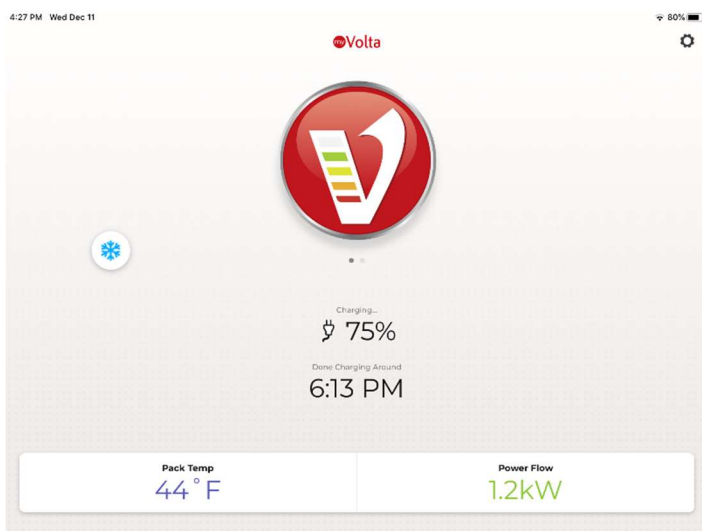
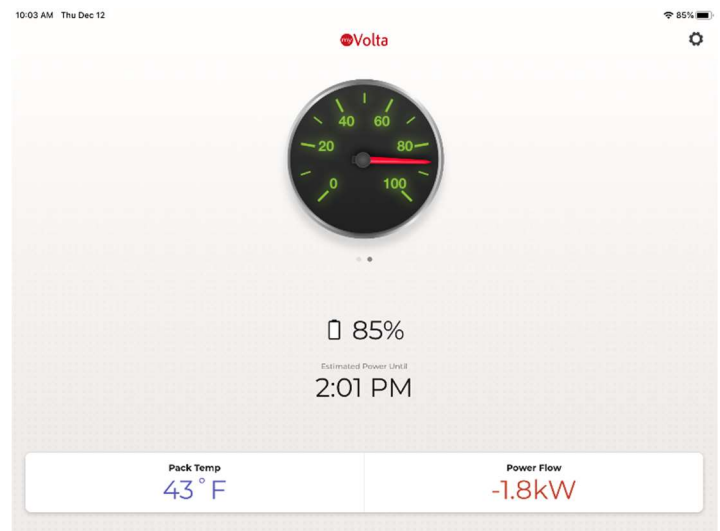
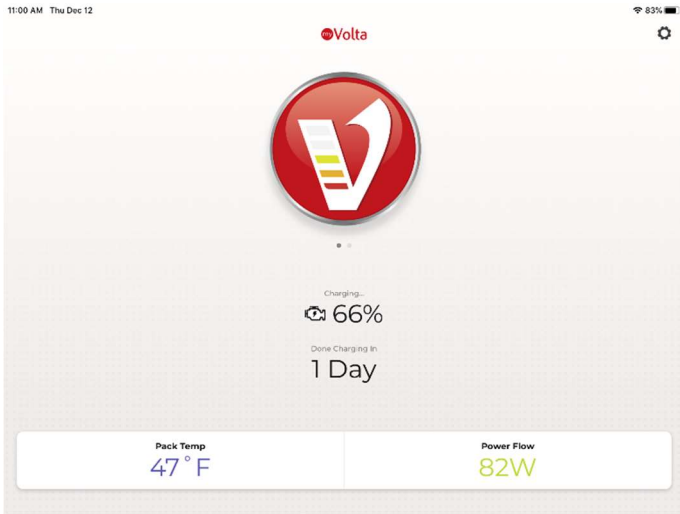

Figure 1
Figure 2
Figure 3
There are two screens to choose from. Figure 1 shows the default screen with the Volta logo and Figure 2 shows the SoC screen. Swipe the screen to switch between the two. The SoC dial in Fig 2 seems to remain green even if the temp drops low enough to stop charging.
- Connected to shore power (Fig 1)
- Discharging (Fig 2)
- Charging (Fig 3)
- If you have a positive Power Flow, the time until you are fully charged (Fig 1)
- If you have a negative Power Flow, the time until you will be out of power (Fig 2)
The Power Flow represents the net wattage going In To and Out Of the power pack. In other words, if you take the total wattage going in and subtract the total wattage going out, you have the net wattage. A good example of these can be seen on the previous page. Fig 1 shows shore power current charging the battery which gives you a net positive Power Flow; while in Fig 2 the coach is disconnected and the Truma is on EL2 producing a net negative Power Flow. In Fig 3, shore power is disconnected and the Truma is turned off so there is a net positive Power Flow from the solar panels.